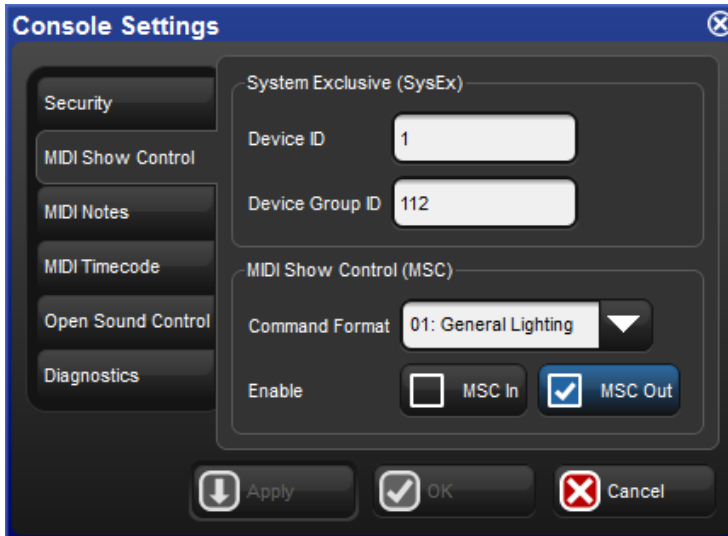

Figure 21.1. The MIDI pane of the Console Settings window
5. Settings : open the Settings window; see *Figure 21.1, "The MIDI pane of the Console Settings window"*.